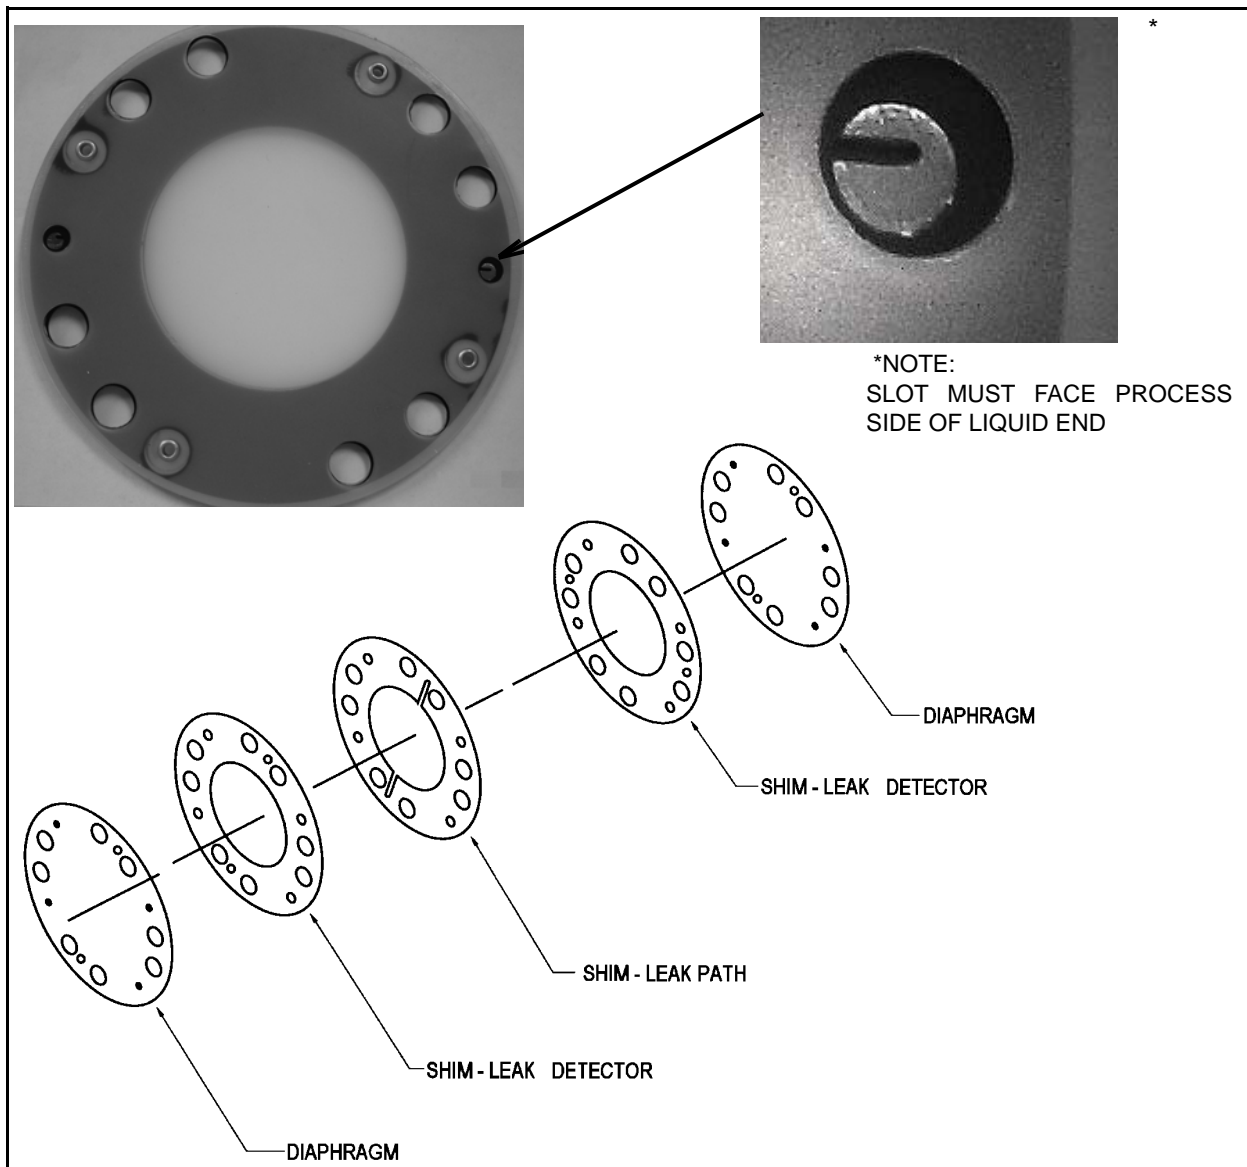

Figure 33. Diaphragm Assembly.
2. Remove the liquid end by removing eight (8) cap screws. Place a catch pan under the plunger body to catch any hydraulic oil retained in the plunger body.
4. Install the double diaphragm assembly. See Figure 33 for proper alignment.